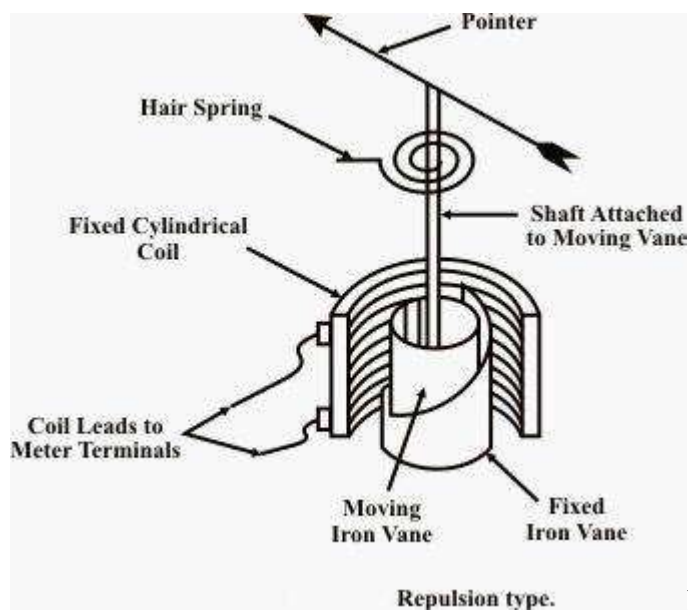

FIGURE 9.1
1. **Repulsion** (or double iron) type (figure 9.1)